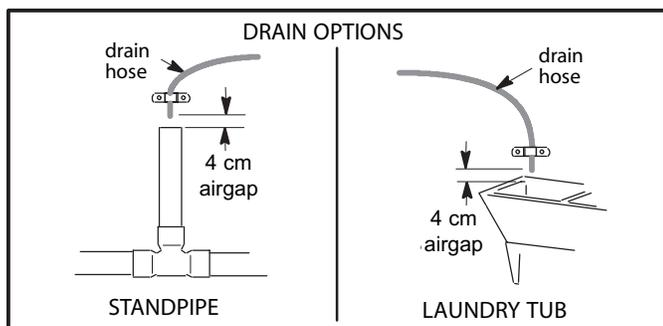
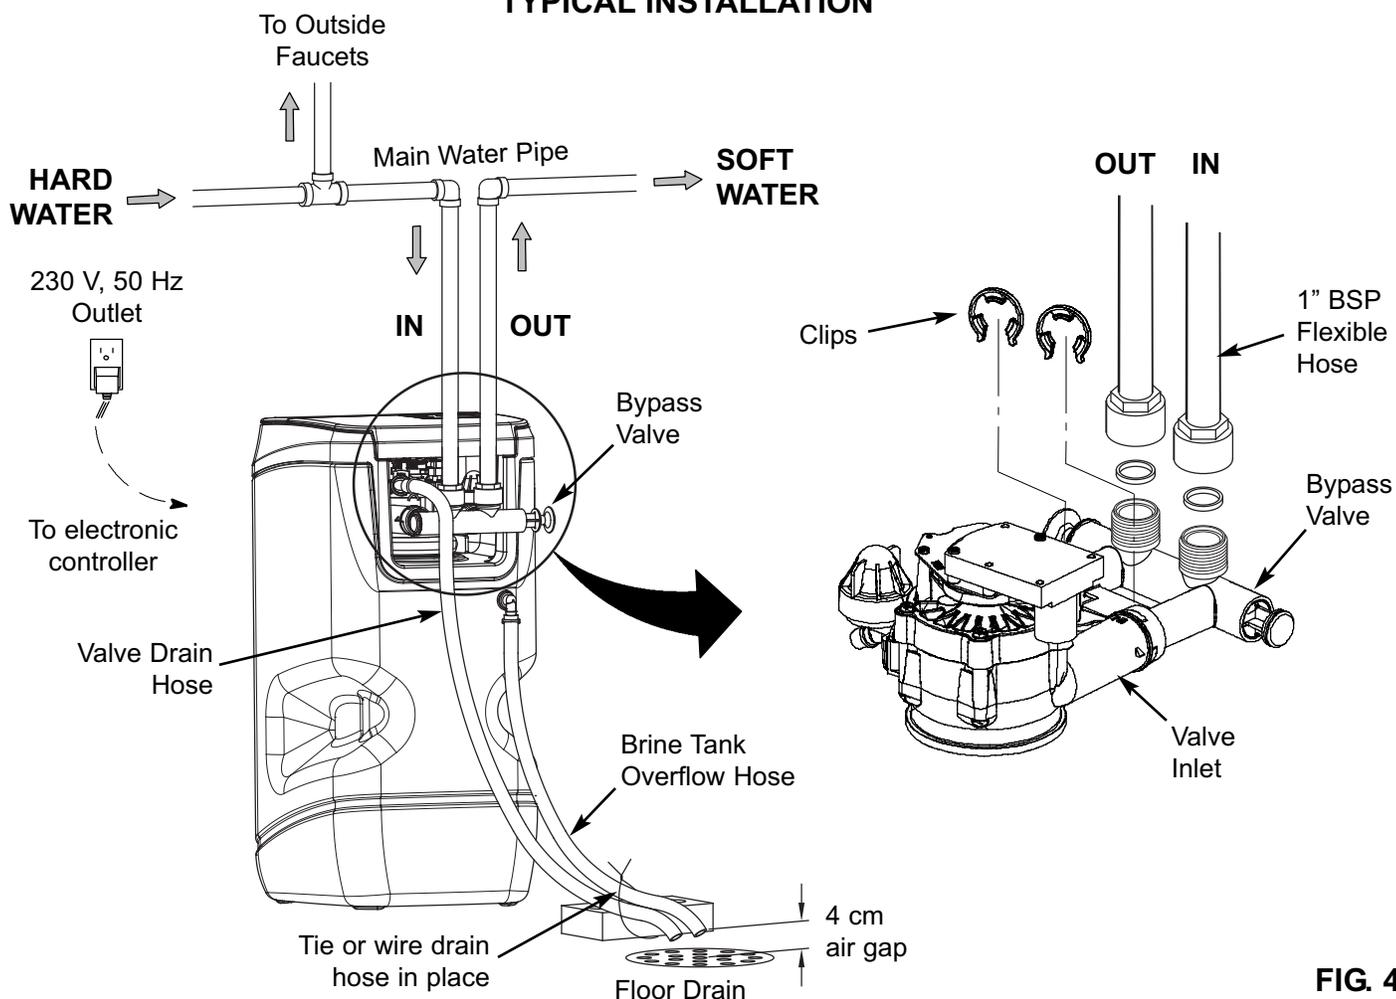

FIG. 2
FIG. 4
- A drain is needed for recharge discharge water. A floor drain is preferred, close to the water softener (See Figure 4). A laundry tub, standpipe, etc., are other options (See Figure 2).
- a. If installing a single bypass valve, put lubricated o-ring seals onto both bypass valve ports. Carefully slide the bypass valve into the softener valve and install the "C" clips (See Figure 4).
- b. Connect flexible hoses to the bypass valve (See Figure 4).
- c. Run the hose to the floor drain, and as typically shown in Figure 4, tie or wire the end to a brick or other heavy object. This will prevent "whipping" during recharges. Be sure to provide a 4 cm minimum air gap, to prevent possible sewer water backup.
- b. Place the bypass valve(s) in **bypass** position (See Figure 2).
- (1) SINGLE BYPASS VALVE: **Slowly** move the valve stem toward **service** position, pausing several times to allow the unit to pressurize slowly.
- (2) 3-VALVE BYPASS: Fully close the **bypass** valve and open the **outlet** valve. **Slowly** open the **inlet** valve, pausing several times to allow the unit to pressurize slowly.